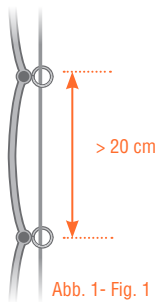

Abb. 1- Fig. 1
- These cord stoppers are provided for use with 'Decoline' Roman blind systems. The cord stoppers have to be fitted by law if the distance between the rods or transparent eyelets exceeds 20 cm. (see fig. 1).